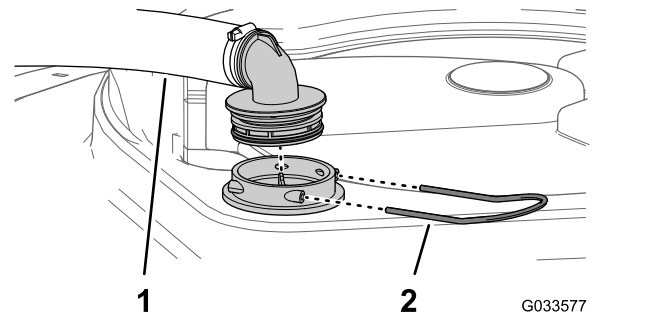

Figure 46
2. At the top of the sprayer tank, remove the retainer that secures the hose fitting attached to the large hose from the filter housing (Figure 46).
- Remove the hose and hose fitting from the filter housing (Figure 46).